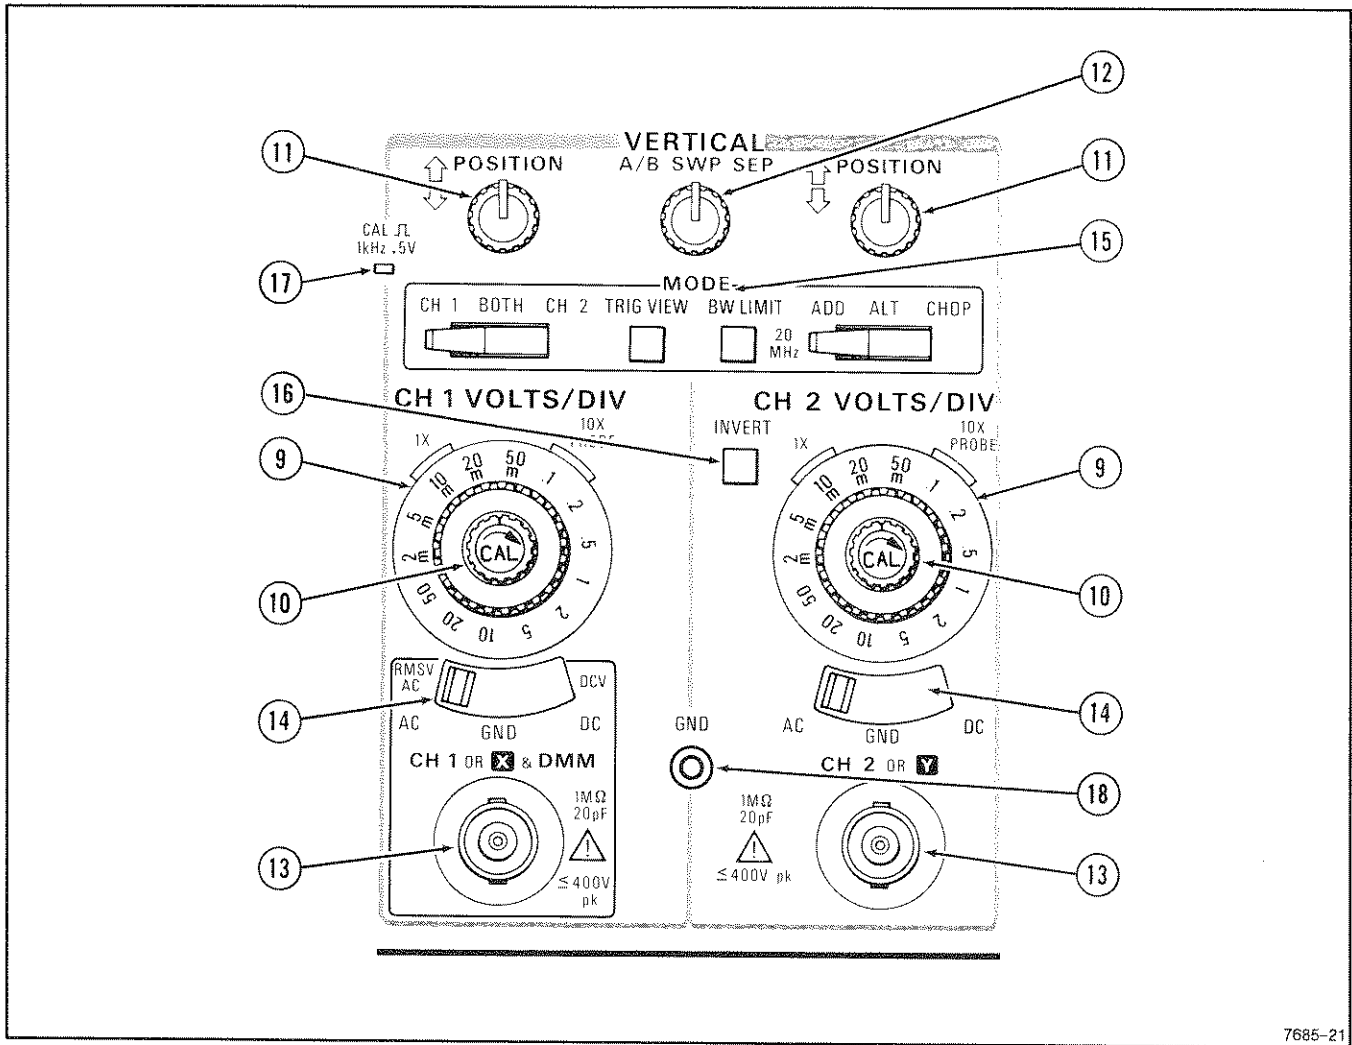

Figure 2-4. Vertical and CAL controls and connectors.
Refer to Figure 2-4 for location of items 9 through 18.
- ⑨ **CH 1 VOLTS/DIV and CH 2 VOLTS/DIV Switches**—Used to select the vertical deflection factor in a 1-2-5 sequence. To obtain a calibrated deflection factor, the VOLTS/DIV Variable control must be in the calibrated (CAL) detent (fully clockwise). In CH 1 V CTM mode, the CH1 VOLTS/DIV switch selects the voltage range for the Multimeter.